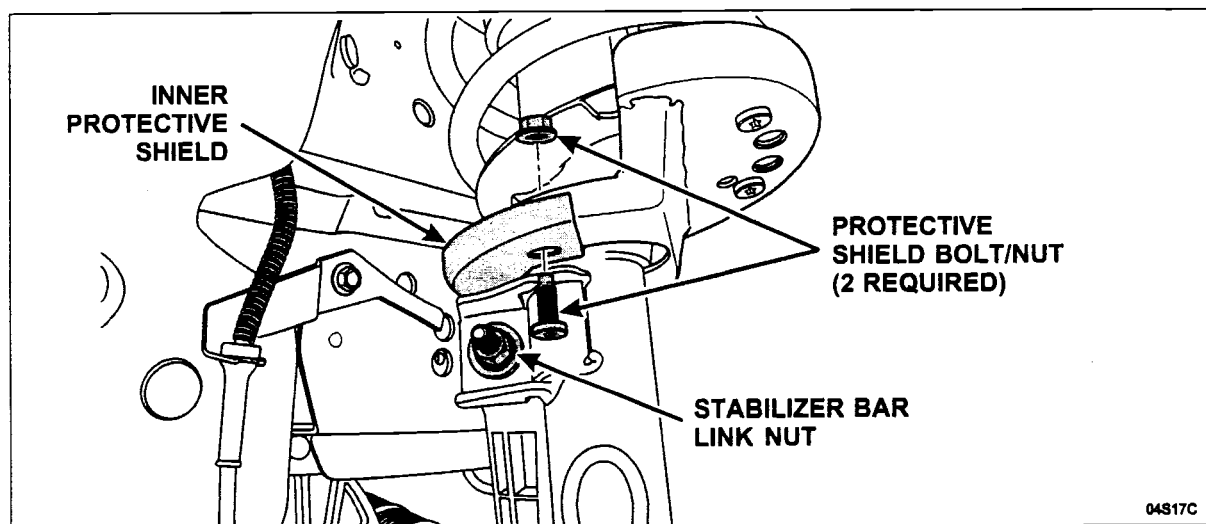

FIGURE 3
- c) Reposition the stabilizer bar link and install **new** retainer nut. DO NOT tighten the nut at this time. See Figure 3.
5. Install the two (2) bolts and the two (2) nuts securing the inner and outer protective shields together. DO NOT tighten the nuts to specification at this time. See Figure 3.